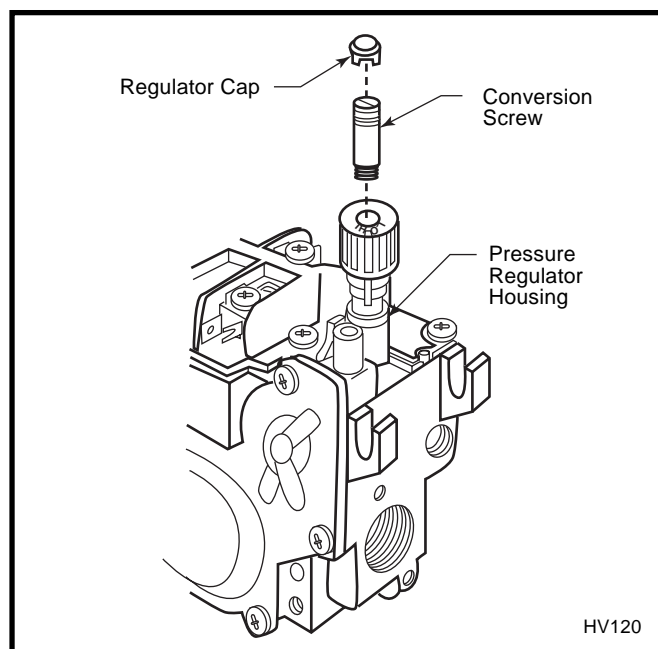

Fig. 41 Honeywell valve conversion.
8. The Honeywell valve (Fig. 41) fitted to this unit is suitable for use with LP or Natural Gas. It is converted to the required gas application by the installation of a color coded "conversion screw".